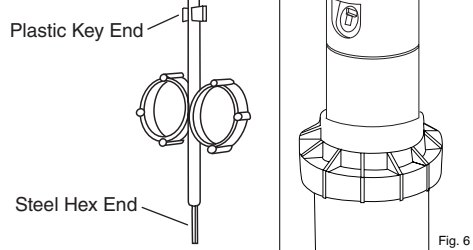

Fig. 6
Insert the steel hex end of the Hunter wrench into the radius adjustment screw (Fig. 6). Turn the screw clockwise (into the stream of water) to decrease the radius, or counterclockwise to increase the radius. Radius can be reduced up to 25%.
- Using the hex key of the Hunter wrench, turn the radius adjustment screw (Fig. 6) counterclockwise to be sure it is not blocking the nozzle socket opening. If a nozzle is already installed, it can be removed by backing out the adjustment screw and turning on the water, or by pulling outward on the nozzle "ears" with a pair of needle-nosed pliers.